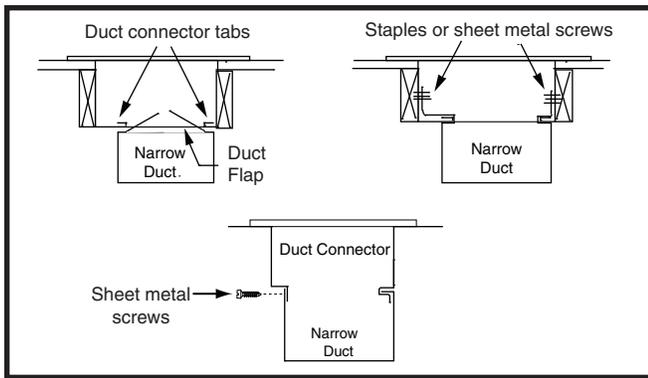

Figure 21. Narrow Ducts
4. Bend the tabs on the bottom of the duct connector upwards and as tight as possible against the supply air duct (Figure 21, page 19).
6. Secure the duct connector flaps to the supply air duct with staples (3 minimum) or if a 2x block/joist is not provided, use sheet metal screws (2 minimum). **NOTE:** The duct connector tabs may be attached to the air duct with sheet metal screws or other suitable fasteners as long as the duct connector and the air duct are securely attached (See Figure 21).